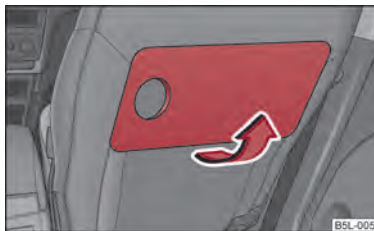

Fig. 44 Folding table on the seat backrest of the front seats
- Fold the table into the horizontal position by pulling in the direction of arrow ⇒ fig. 44.